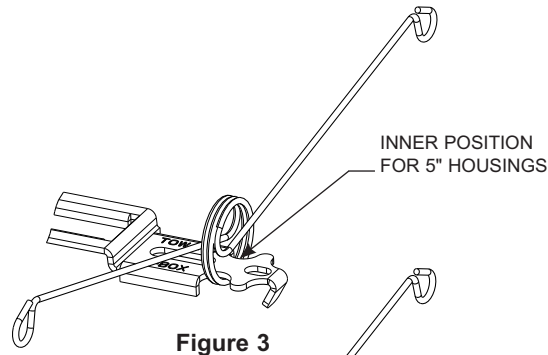
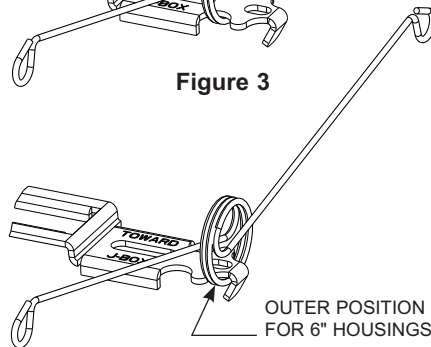

Figure 3
Figure 4
1. Remove strap from fixture. If installing into a 5" recessed housing, install the 56RLS-RETROKIT torsion springs onto the strap in the inner position (see Figure 3). If installing into a 6" recessed housing, install the torsion springs in the outer position (see Figure 4).